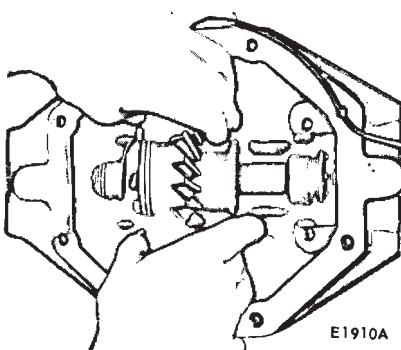

FIG. 18—Differential Case Removal or Installation
12. Remove the differential case and bearing cups (Fig. 18).
11. Place the cups on the bearings and set the differential case assembly in the carrier casting (Fig. 18).